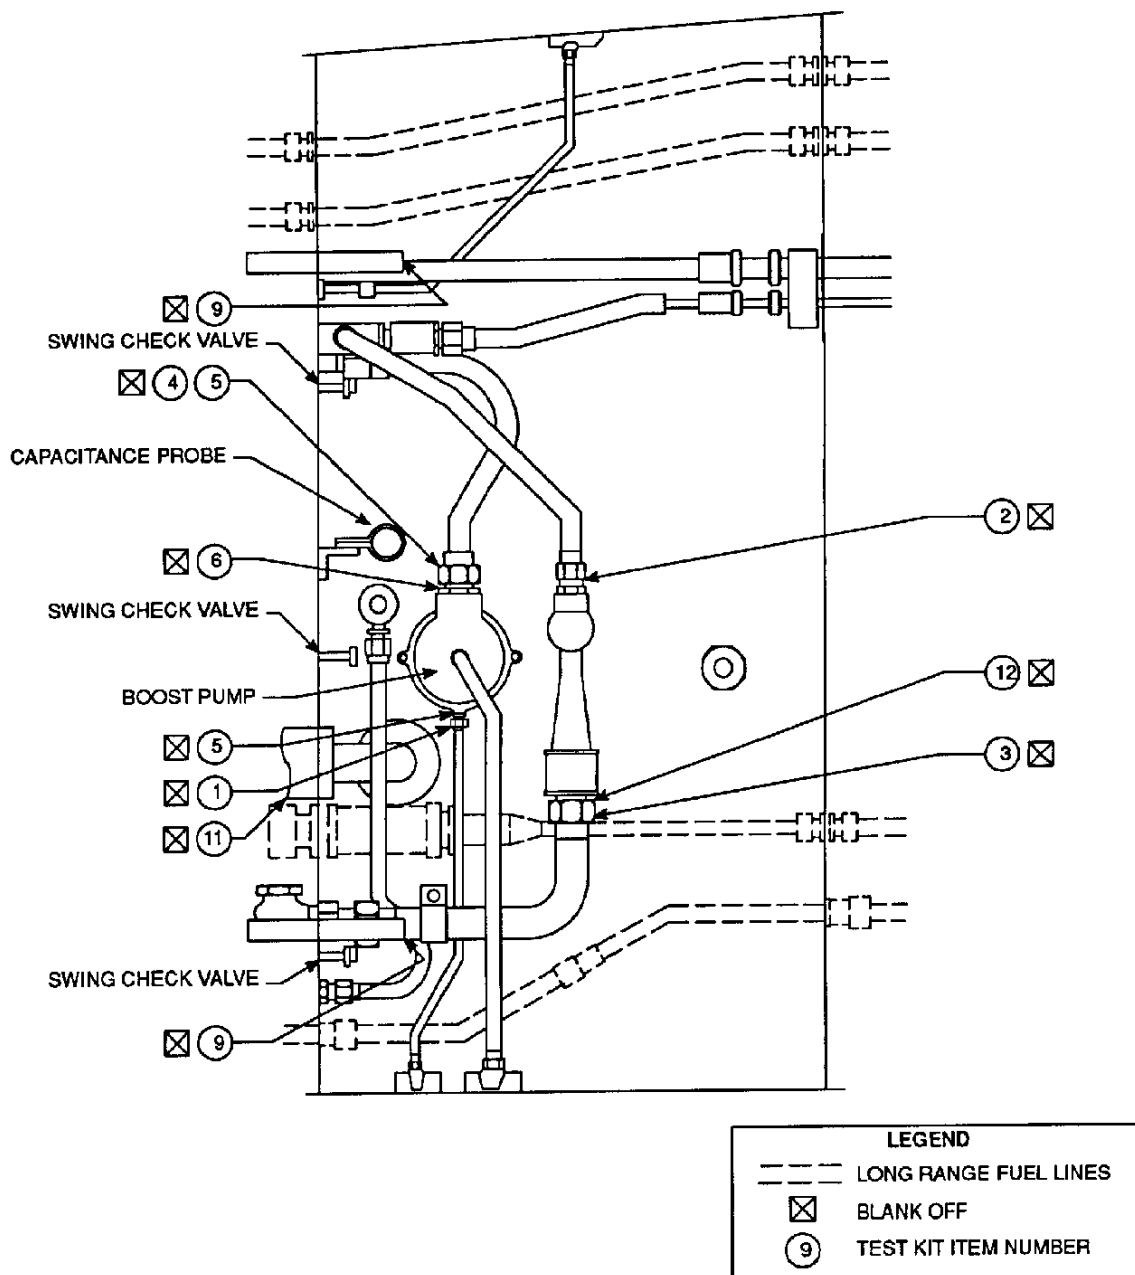

Figure 1 - Collector Bay (Top View)
- 5.2.3 Disconnect and blank off all fuel lines using caps, plugs, etc., from the Fuel Function Test Kit, as follows (see Figure 1). Use only approved mechanical sealing devices and do not use unauthorized materials such as putty, plasticine or similar products in the wing fuel tanks.